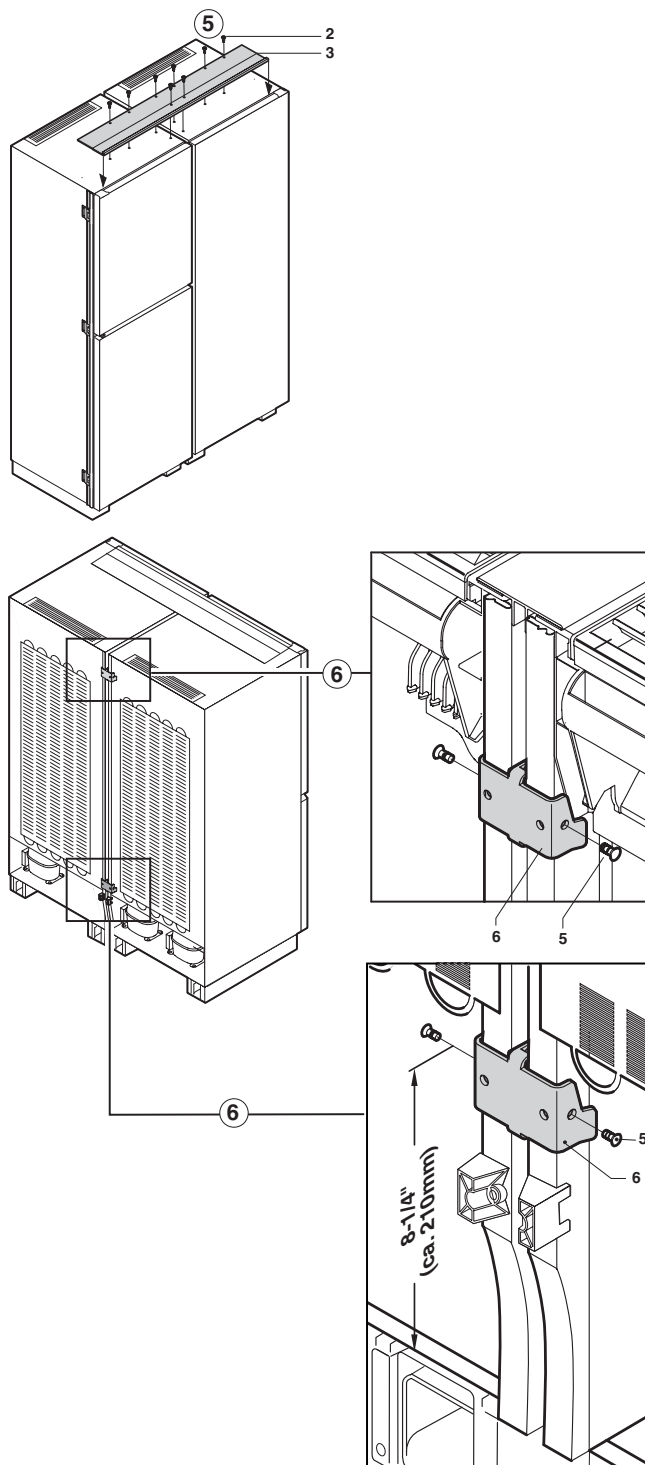

Figure 26
5. **Figure 26:** Secure the installation frame (3) at the top to the appliances with screws (2).
- Use the predrilled holes to align the installation frame (2).
- First mount the installation (3) frame with 4 screws (2) to one appliance, then align the other appliance with the predrilled holes to the installation frame (3) and secure it with the screws (2).
6. Position the attachment brackets (6) at the rear of the appliances at the top and bottom. Slide the upper attachment bracket upwards as far as possible. Secure it at the side using the screws provided (5). Do not overtighten!